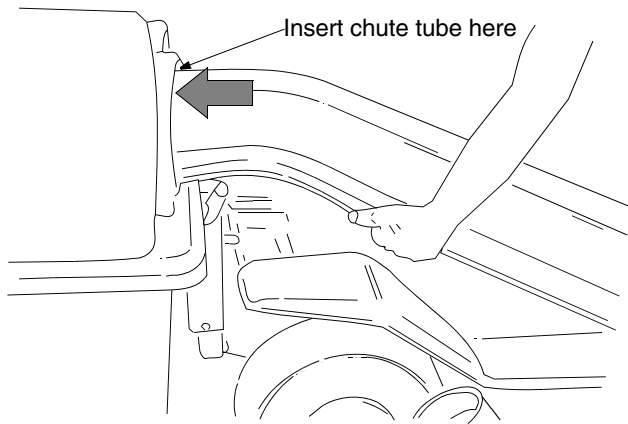

Figure 8
- Insert the curved end of chute tube into the hole in the grass bag cover as shown in Figure 8.